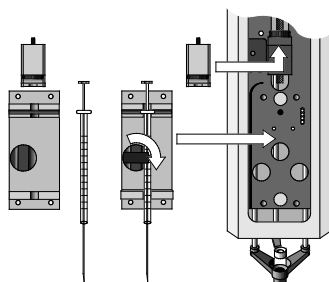

Figure 38. Syringe and Syringe Adapter for Liquid Injections
3. Place the syringe in the appropriate syringe adapter. Pull the plunger out to approximately 20% of its length (See Fig. 38);